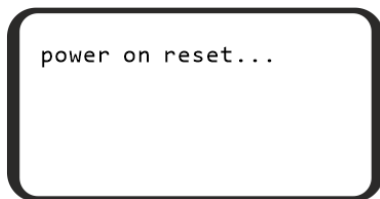

Figure 6. Initialisation screen
- When switched on, the unit performs full initialisation cycle and displays the message “Power on reset” (figure 6)